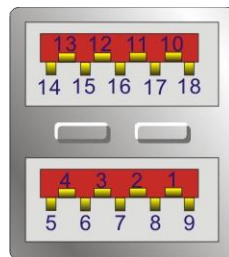

Figure 3-34: External USB 3.2 Gen 2 Connectors Location
- CN Location:** See **Figure 3-34**